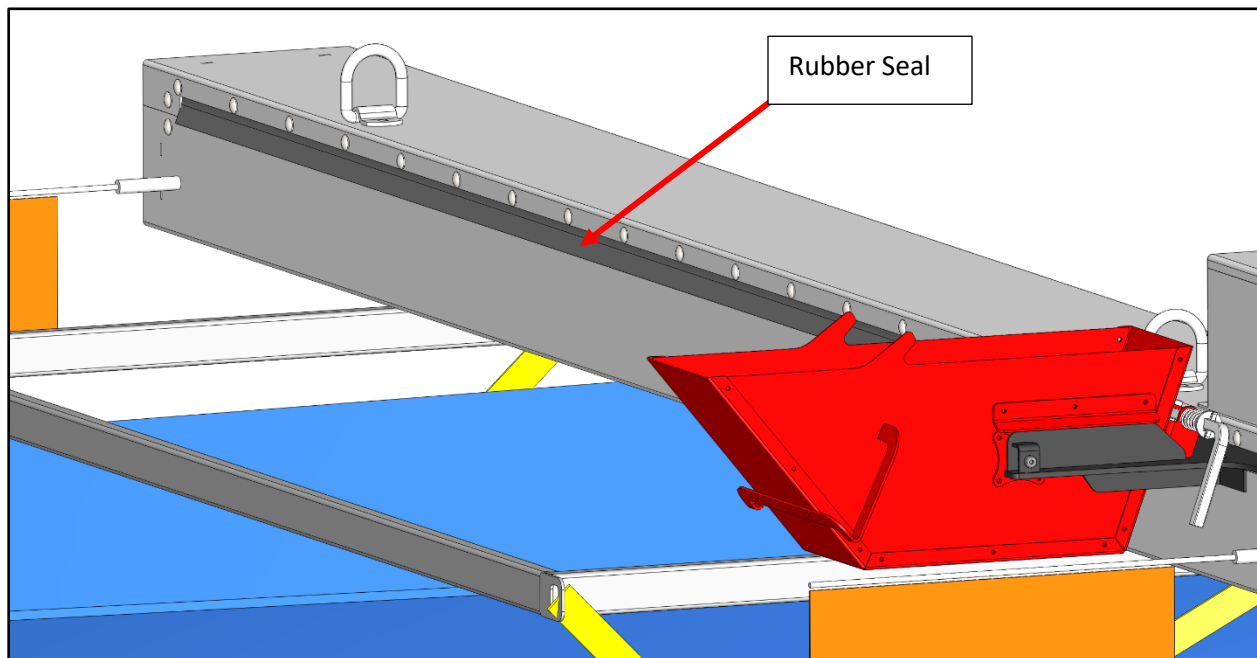

Figure 16 – Indicating rubber seal location.
- During operation in cold weather, ensure that the rubber seal is not frozen to the enclosure, as this can cause damage to the seal. See Figure 16.
- Check that the seal is always on the outside of the bottom edge of the opening in the aluminum cover. This helps to keep debris from getting inside the enclosure. See Figures 16 and 17. Also ensure that the rubber seal looks to be in good condition.